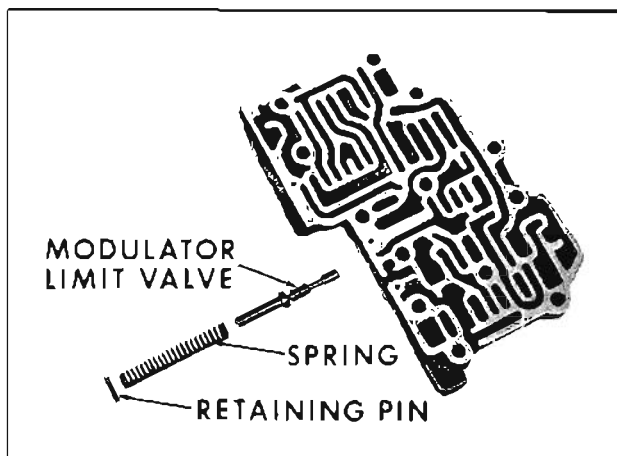

Fig. 6-309 Removing Modulator Limit Valve
3. Depress modulator limit spring, turn valve body over and retaining pin will fall free. Remove spring and valve from body. (Fig. 6-309)
2. Install modulator limit valve and spring into bore of valve body. Compress spring and install retaining pin. (Fig. 6-309)